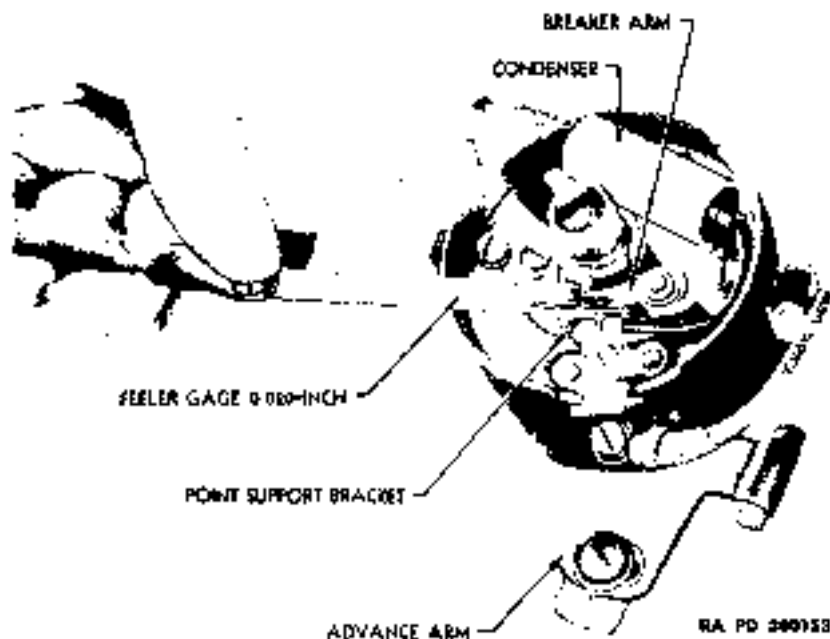

Figure 62—Adjusting Distributor Contact Points
crank the engine until the breaker arm rubbing strip is on the peak of the cam. The contact points are then at maximum gap. Loosen stationary point mounting plate lock screw. With correct thickness feeler gage in position between points (fig. 62), adjust eccentric screw to right or left, increasing or decreasing gap until feeler gage just fills gap. (Gage can be inserted between points with barely appreciable friction.) Tighten lock screw and recheck gap.
a. **Description.** The condenser is mounted in the body of the distributor (fig. 62) secured to the support plate by a screw and connected through short lead across distributor breaker points. The condenser has the capacity to absorb or store up momentarily electrical energy surging in the primary circuit at the instant points "break" the circuit. This function of the condenser prevents point burning and arcing.